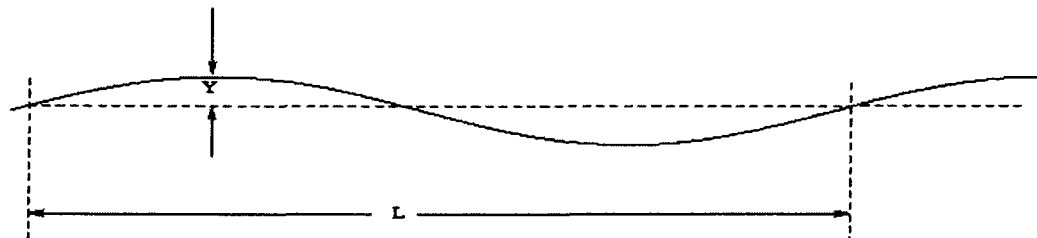

Figure Q2[b]
- [b] A motorcycle travels on a road whose profile can be approximated with a sinusoidal function given by Figure Q2[b] where the wavelength L is 7 m and the amplitude Y is 2 cm. The equivalent mass of the motorcycle is 100 kg, the spring stiffness is 5 kN/m, and the damping coefficient is 50 Ns/m.